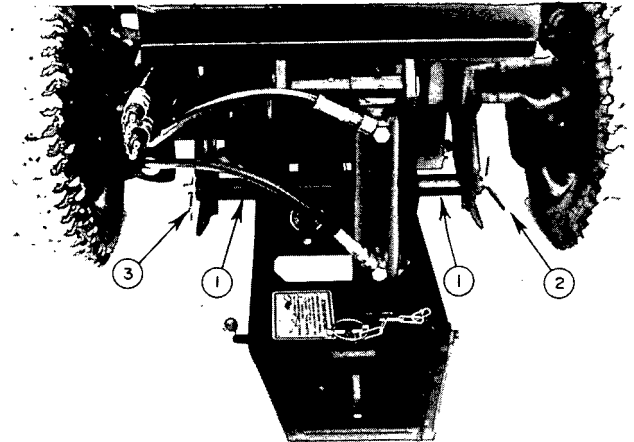

FIGURE 11
- c) Sitting on the tractor seat, start engine, set parking brake and, using the hydraulic valve lever carefully lower front end of subframe so that the welded tube (fig.11, item 1) on the subframe front section raise into place inside the support brackets. Lower front section until the weight is off the front tires. Turn engine off. Attach the front end of the subframe to the front attaching brackets with the  $\frac{3}{4}$ " x  $17 \frac{1}{8}$ " pin (fig.11, item 2). Lock the pin in place with a 4mm x 80mm hair pin (fig.11, item 3).
- i) Carefully back the tractor over the subframe as shown in Figure 11, running the front right hand tire over the valve support bracket. **Do not back over the driveline or the hydraulic hoses.**
- a) Carefully drive tractor over subframe, running the front right hand wheel over the valve support bracket as shown in Figure 11. Place tractor so that the subframe front pin points are under the front support brackets, and that the subframe rear pin point is in line with the tractor drawbar. Turn engine off and set parking brake.